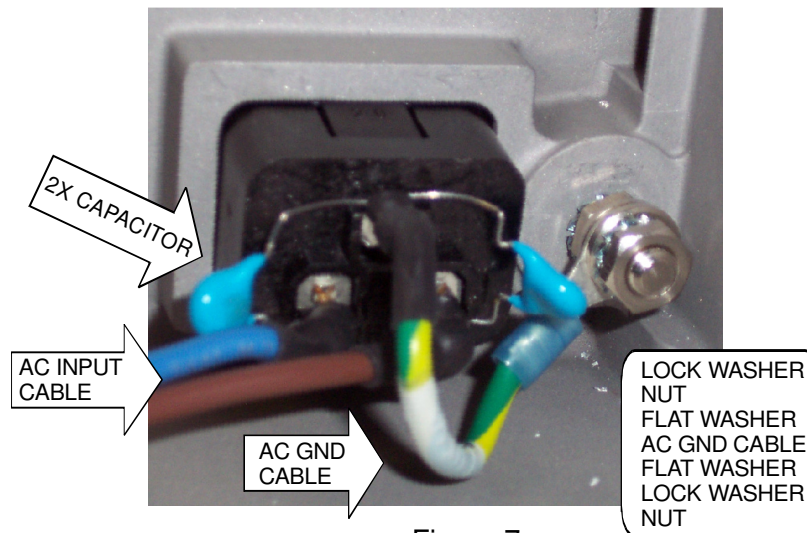

Figure 7
1. Attach flat washer, AC Ground Cable, flat washer, lock washer & nut to Ground Stud in that order. Figure 7.